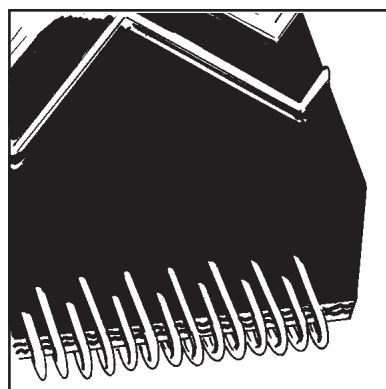

Figure 9
**12. ONCE SPLICE IS COMPLETE,** remove lacer pin and belt from Lacing Tool. Chamfer corners of belt. Install lacing on other belt end. Insert .109" connecting pin to complete splice (Fig. 9).